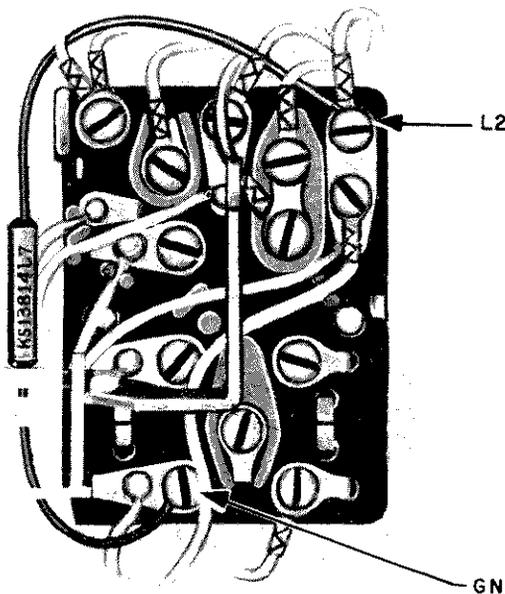

Fig. 9 — 500J, K or 501J, K Telephone Set, KS-13814, List 7 Capacitor Installed
4.06 The KS-13814, List 7 capacitor is installed in the 500J, K and 501J, K telephone sets as shown in Fig. 9. It is connected across the L2 and GN terminals of the 425A network as shown. Place the capacitor against the side of the network nearest the ringer. Cover the exposed portions of the capacitor leads with tubular insulation.